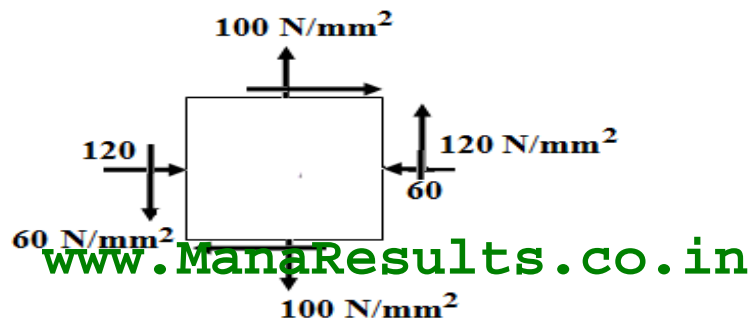

Figure: 4
8. A plane element is subjected to the stresses as shown in figure 4. Using Mohr's circle, determine (a) the principal stresses and their directions and (b) the maximum shearing stresses and the directions of the planes on which they occur. [10]